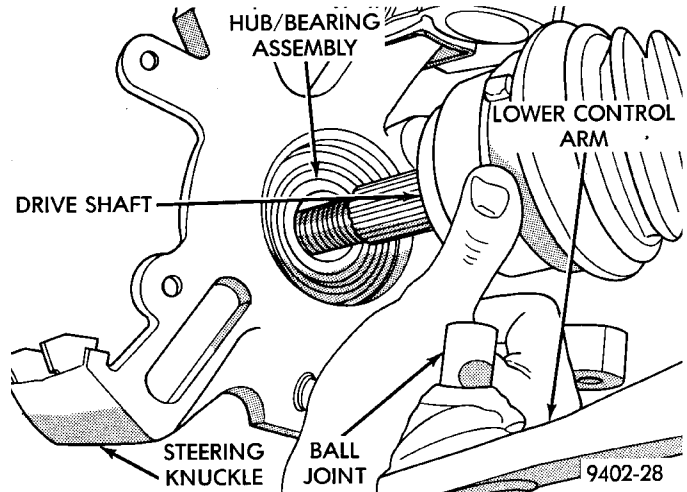

Fig. 12 Steering Knuckle Separation from Driveshaft
(13) Pull steering knuckle assembly out and away from outer C/V joint of the driveshaft assembly (Fig. 12).
(14) Support outer end of the driveshaft assembly.